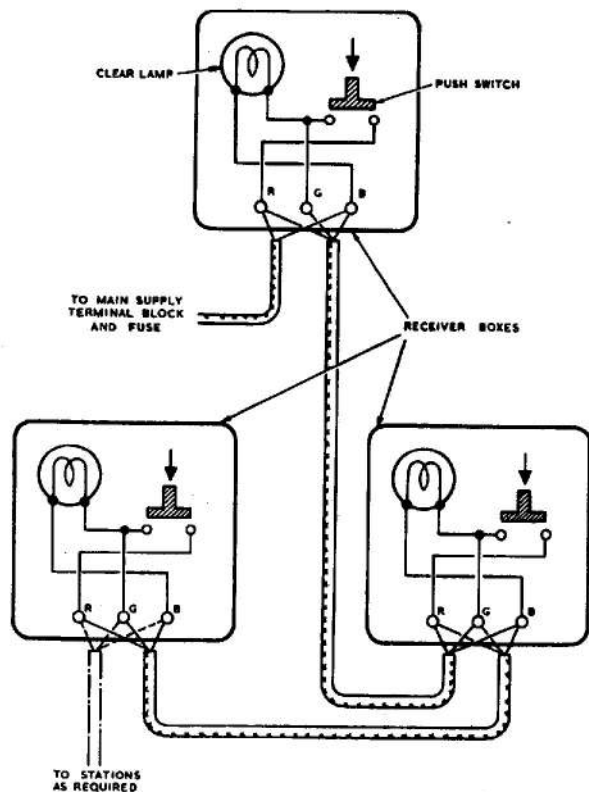

Fig. 2. Wiring diagram of intercommunication signalling
3. The lower portion of the box is a 3-way terminal block with two cable glands moulded into the bottom face. The terminal cover and back cover are removable, and are provided with rubber gaskets to render the joints waterproof. A diagram showing the internal connections is given in fig. 2.